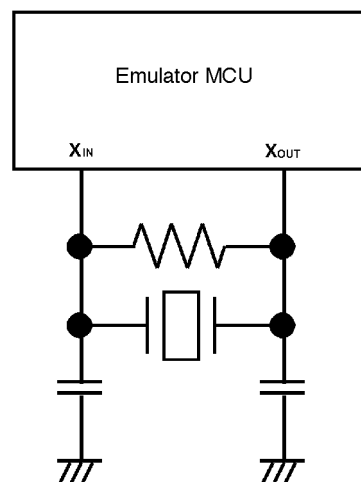

Figure 3.2 Circuit in which oscillation does not occur
- Make note of the fact that in the oscillator circuit shown in Figure 3.2 where a resonator is connected between the X_{IN} and X_{OUT} pins, oscillation does not occur because a flexible cable, buffer IC and other devices are used between the evaluation MCU and the target system.